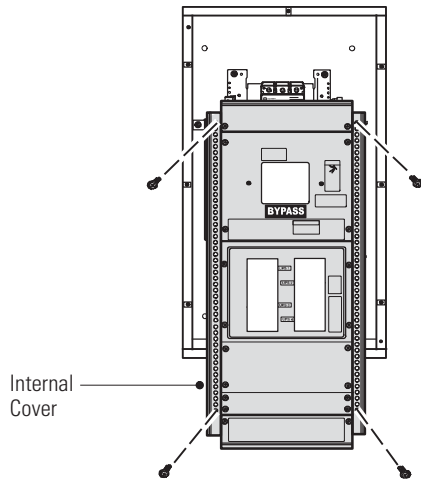

Figure 19. Version 1 Internal Cover
6. Remove the internal cover to gain access to the breakers (see Figure 19).